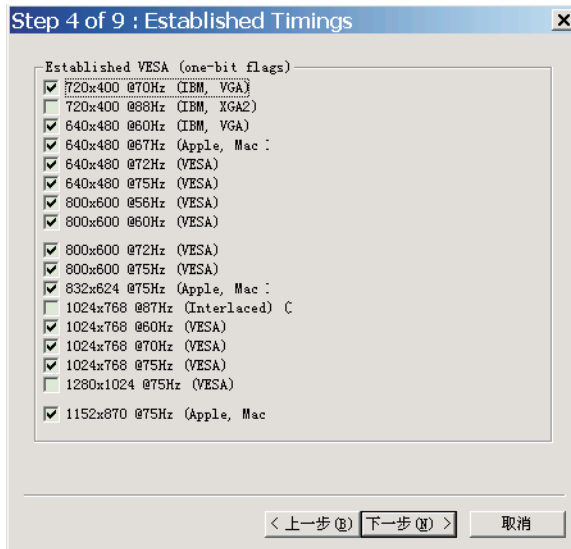

Fig. 34
3. Click Next , bring up Fig. 34.